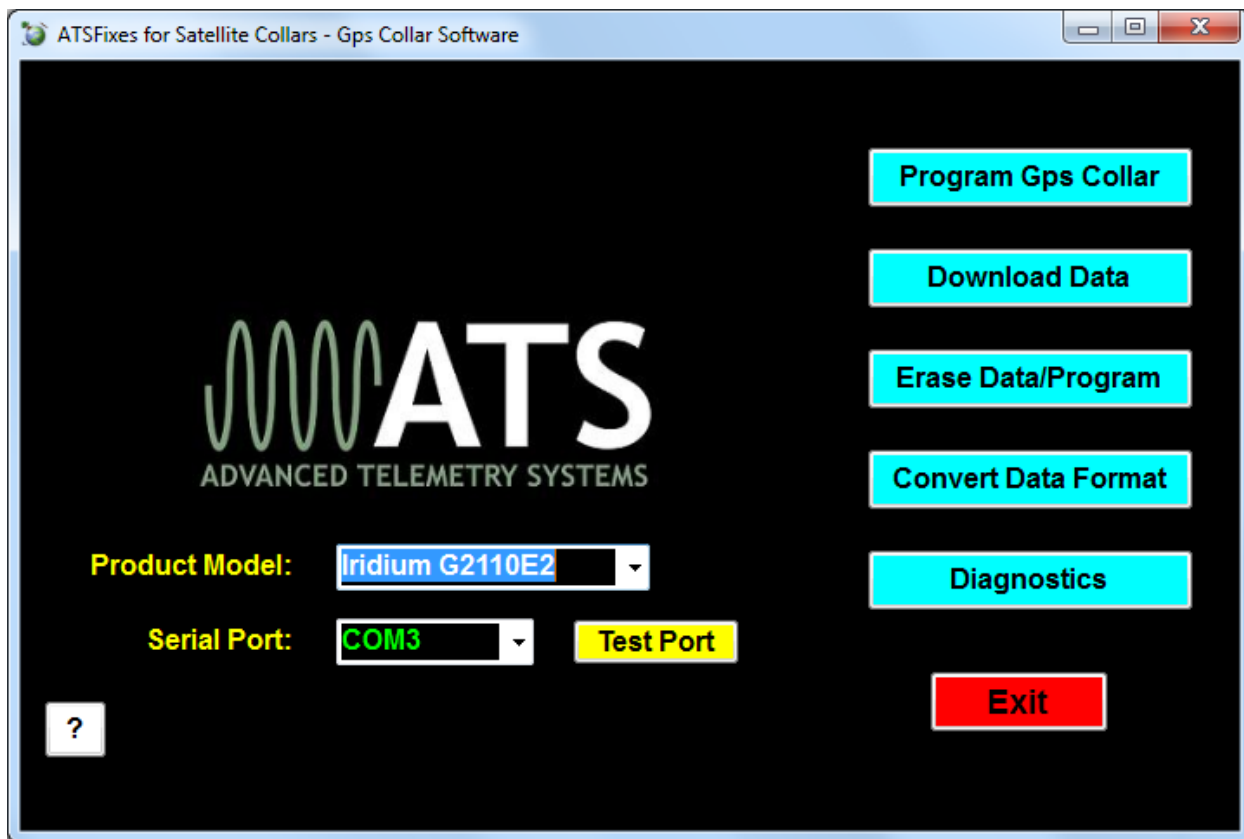

Figure 2. ATSFixes for Satellite Collars – Main Page
1. Open the ATSFixes for Satellite Collars Software. It should look similar to Figure 2. The software will recognize all serial ports available when starting.